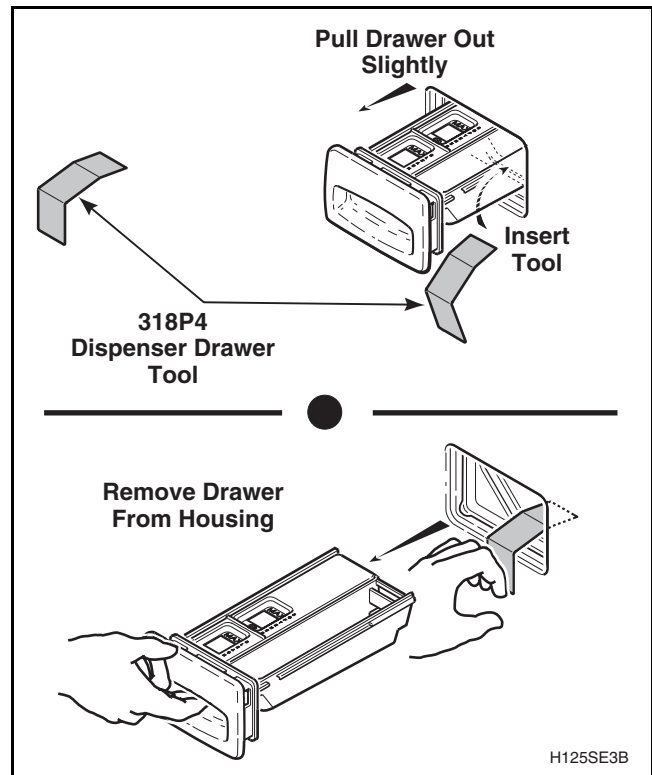

Figure 10
- b. Using the special tool, No. 318P4, remove dispenser drawer. Refer to *Figure 10*.
- (2) Using the special tool, No. 318P4, remove dispenser drawer. Refer to *Figure 10*.